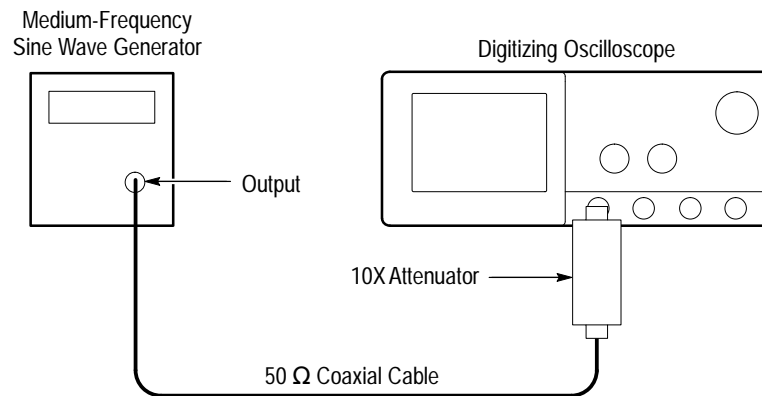

Figure 1-13: Initial Test Hookup
- c. *Hook up the test-signal source:* Connect the output of a medium-frequency leveled sine wave generator (Item 11) to CH 1. Do this through a 50 Ω precision coaxial cable, followed by a 10X attenuator. See Figure 1-13 on page 1-44.